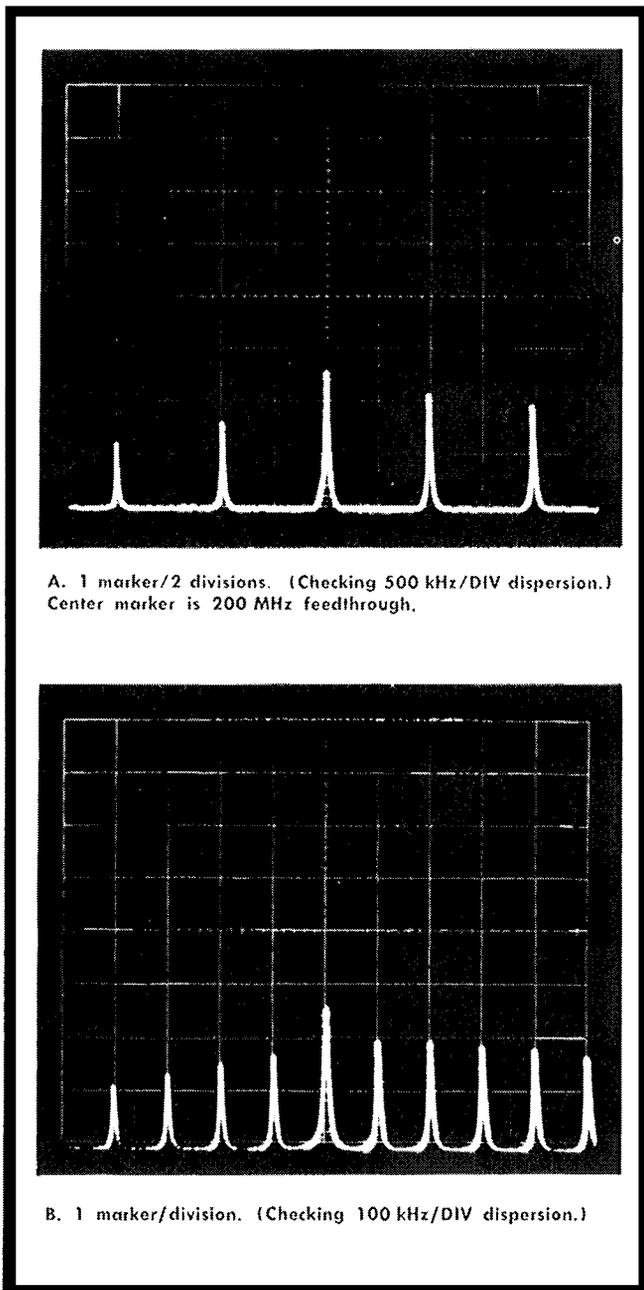

Fig. 6-31. Typical displays when checking or adjusting kHz/DIV
h. Check the dispersion accuracy (Fig. 6-31) at each DISPERSION selector position noted in Table 6-5.